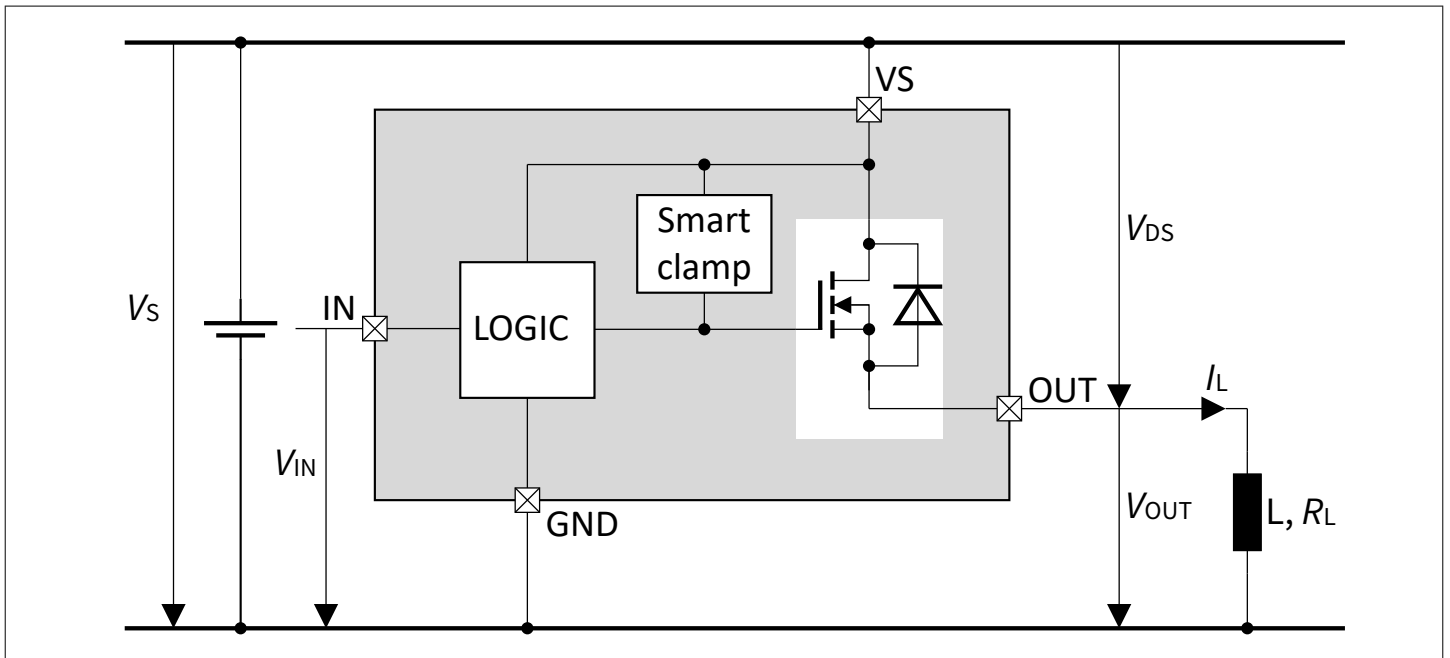
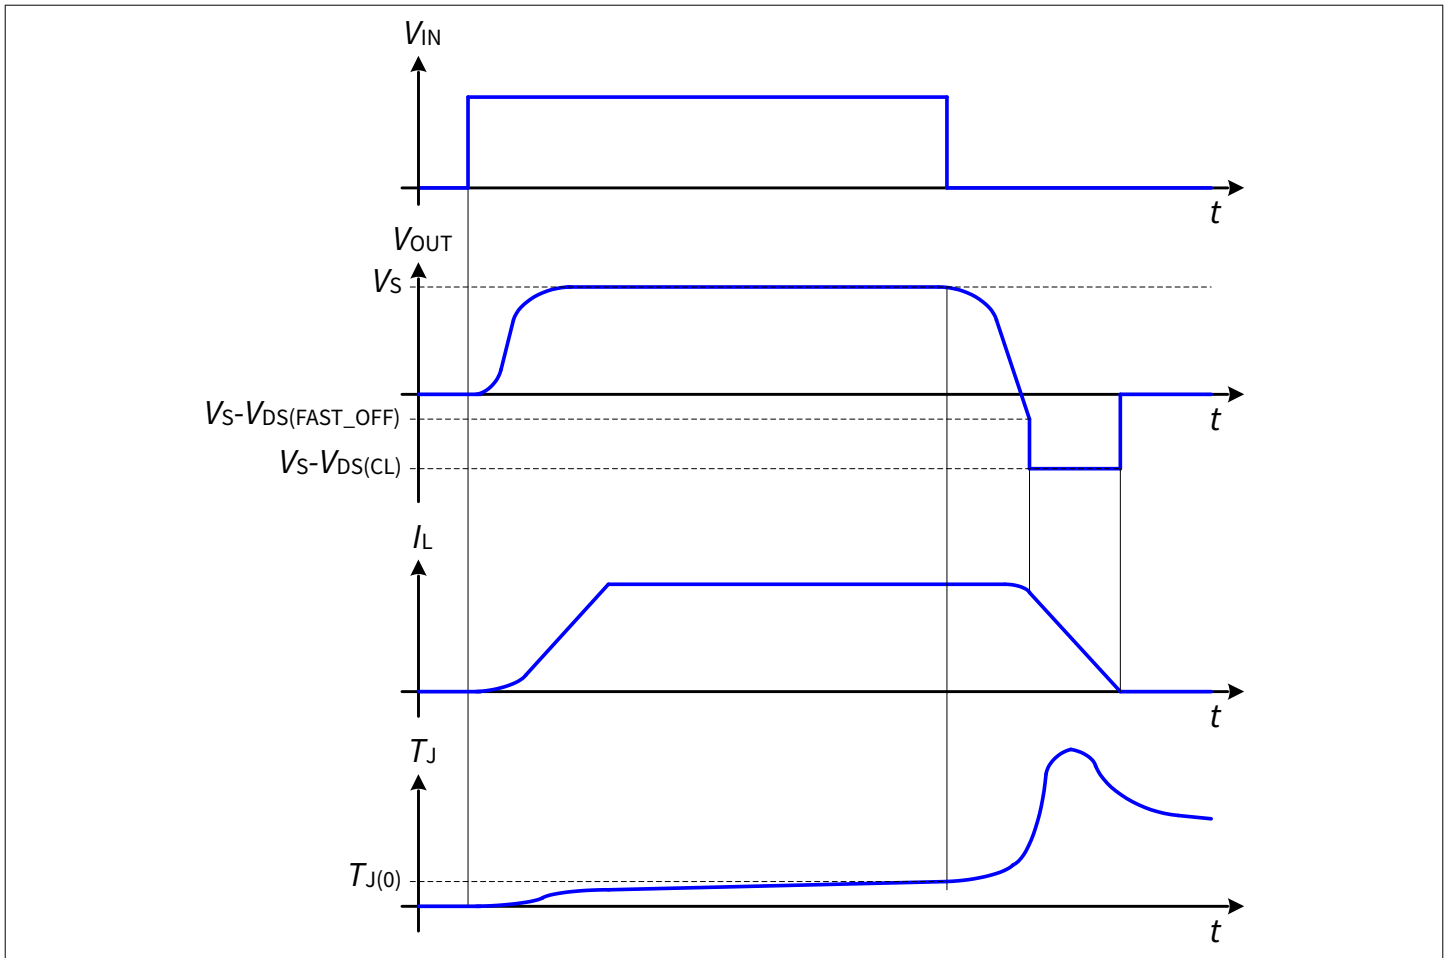

Figure 11 Output clamp
Figure 12 Switching an inductance
To prevent the destruction of the device due to high voltages, there is a smart clamping mechanism implemented that keeps negative output voltage to a certain level ($V_S - V_{DS(CL)}$). Please refer to Figure 11 and Figure 12 for details. Nevertheless, the maximum allowed load inductance remains limited.
- The device is turned off by applying $V_{IN(L)}$ at the IN pin. During the switch off operation the OUT pins' voltage in respect to VS pin drops below $V_{DS(FAST_OFF)}$. See Figure 12.